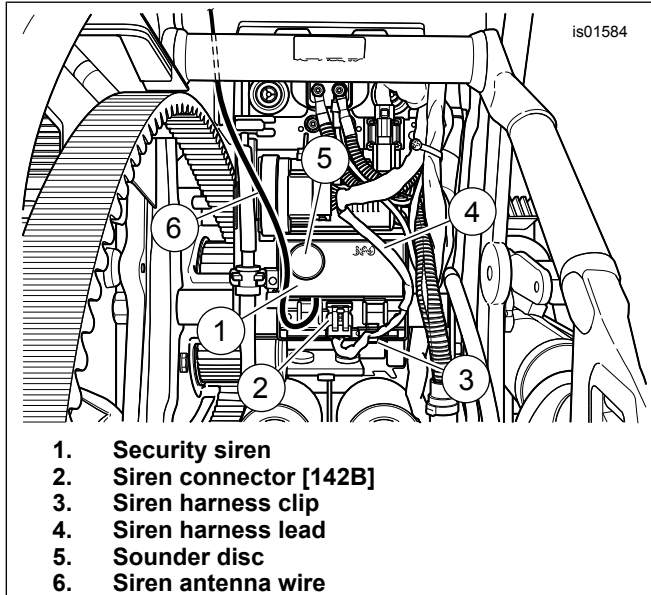
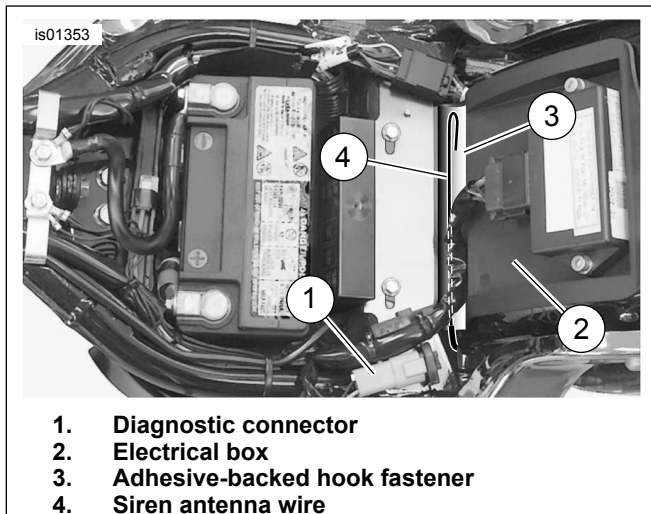

Figure 22. Siren Mounting (Softail Models EXCEPT FXCW, FXCWC)
Figure 23. Siren Antenna Mounting (Softail Models EXCEPT FXCW, FXCWC)
5. See Figure 22. Orient the siren (1) as shown, with the harness connector (2) toward the bottom and the sounder disc (5) facing out. Route the siren pager antenna wire (6) Carefully snap the siren into the electrical panel.
6. Insert the siren harness lead (4) into the harness clip (3) to keep the harness clear of other components.
8. See Figure 23. Gently pull the siren pager antenna wire upwards through the fender opening. Lay the wire across the concave surface at the base of the electrical box. Observe where the small-diameter portion of the wire begins, and where that point falls on the electrical box.